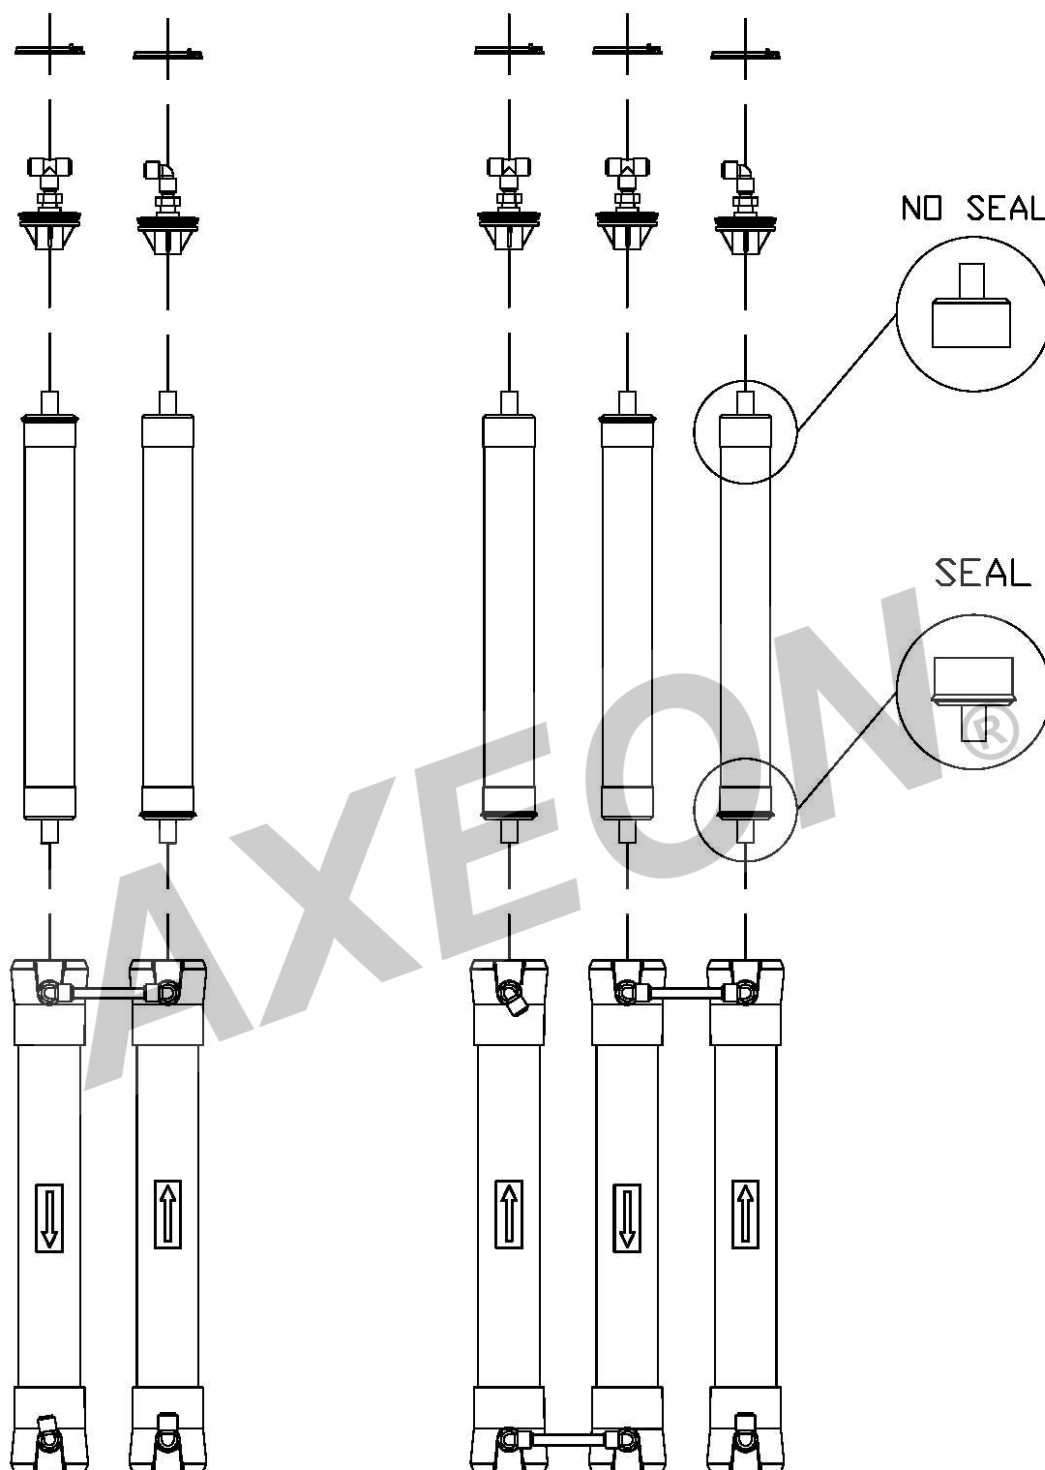

FIGURE 4
5. Flow directions should be observed for installation of each element into each housing. (Figure 4, Page 27)
3. Install the brine seal side of the membrane element first (Figure 4, Page 27). When the housings have a direction of flow from bottom to top, the brine seal should be located at the bottom of the housing.